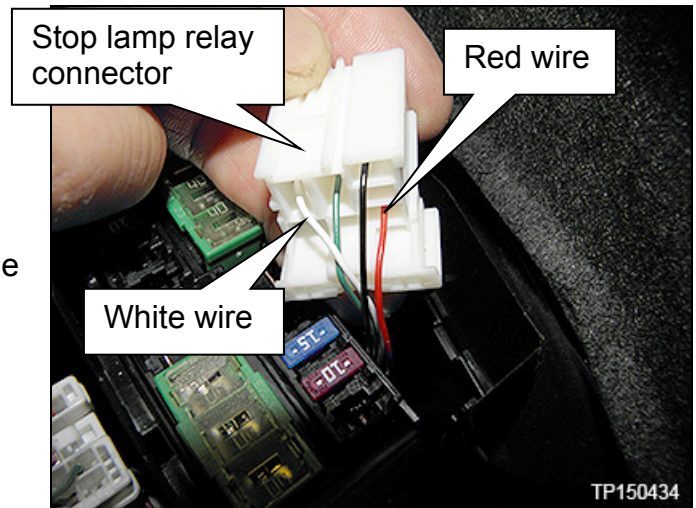

Figure 4
5. Locate the red and the white wires on the bottom of the stop lamp relay connector (Figure 4).